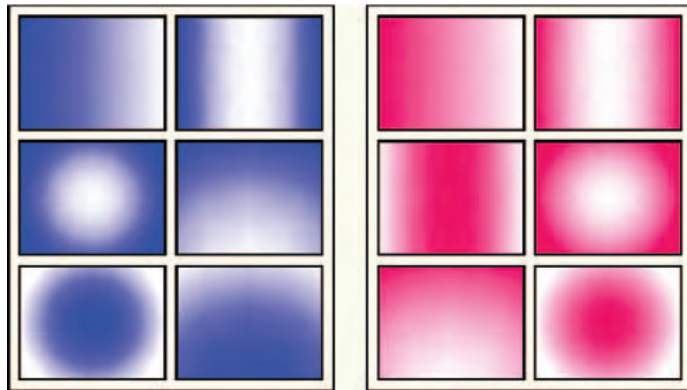

Fig. 8.9 Fourth example – **Gradient** hatching
Fourth example – Colour gradient hatching (Fig. 8.9)
1. Construct two outlines, each consisting of six rectangles (Fig. 8.9).
The result is shown in Fig. 8.9.